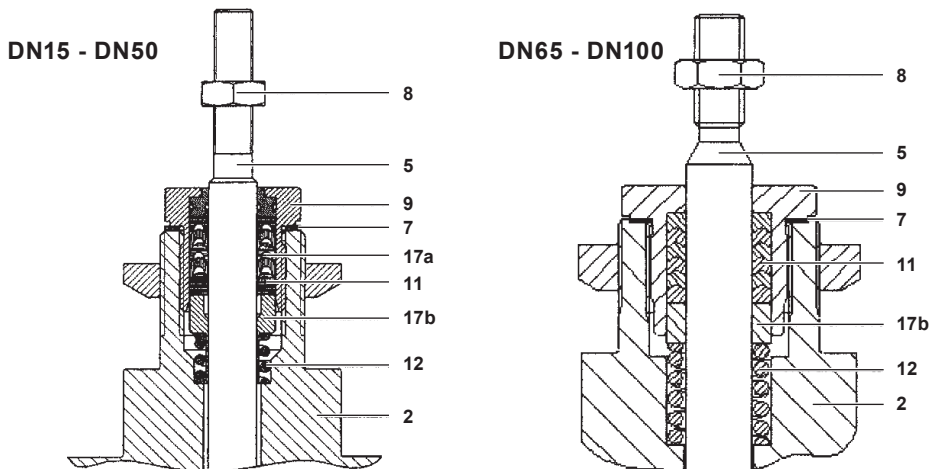

Fig. 6
4.2.3 Procedure for renewing valve stem, plug and seats on mixing valves (Refer to figures 6 to 8)
4.2.4 Procedure for renewing valve stem, plug and seats on diverting valves (Refer to Figures 6, 7 and 9)